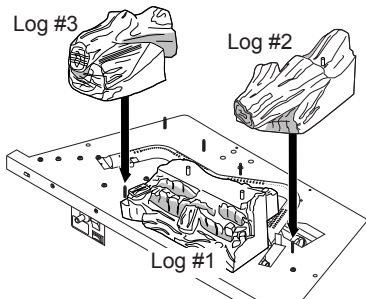

Figure 32 - Installing Log #2 (Right) and Log #3 (Left)
2. Place log #2 to right of log #1 and onto log alignment screw as shown in Figure 32. Log #2 will wrap around right end of rear burner.
3. Place log #3 on left side of base and onto alignment screw to right of rear burner (see Figure 32). Log #3 will wrap around left end of rear burner.